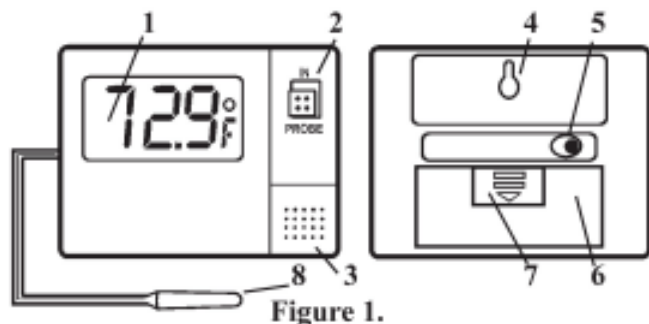

Figure 1.
1. Turn the thermometer on by inserting the battery. To insert the battery, slide the Battery Door located on the back in the direction of the arrow (7, Fig. 1). Insert the battery as directed by the polarity symbols (+ and -). Replace the Battery Door.
2. Select probe or ambient temperature by switching to the desired position (2, Fig. 1).
3. Select Fahrenheit or Celsius by switching to the desired unit of measurement (5, Fig. 1).
6. Flip out the plastic stand on the back of the unit to stand on a table. Mount to wall by sliding Hanger Slot (4, Fig. 1) onto a screw set in the wall (not flush).